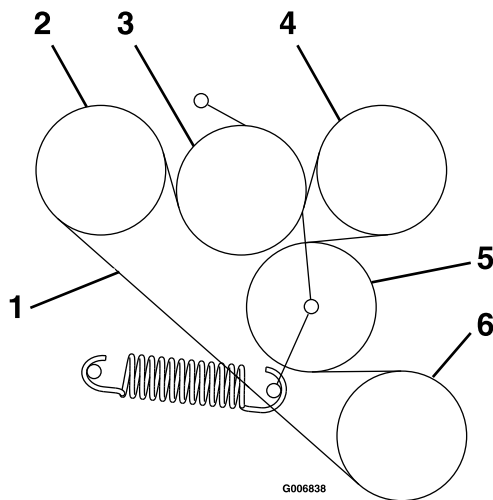

Figure 50
6. Route the new belt onto the sheaves as shown in the decal located on the back of the left drive shield (Figure 50).